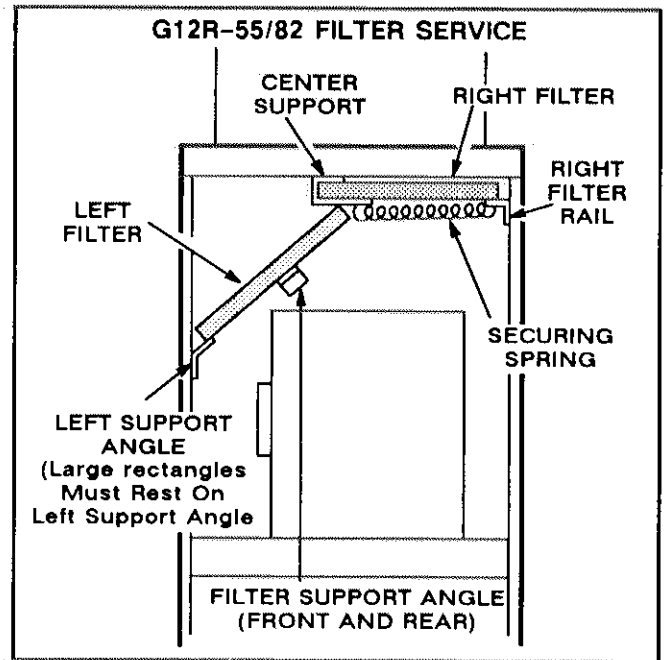

FIGURE 10
- 3- Remove securing spring from slotted center support tab and right filter rail. See figure 10.